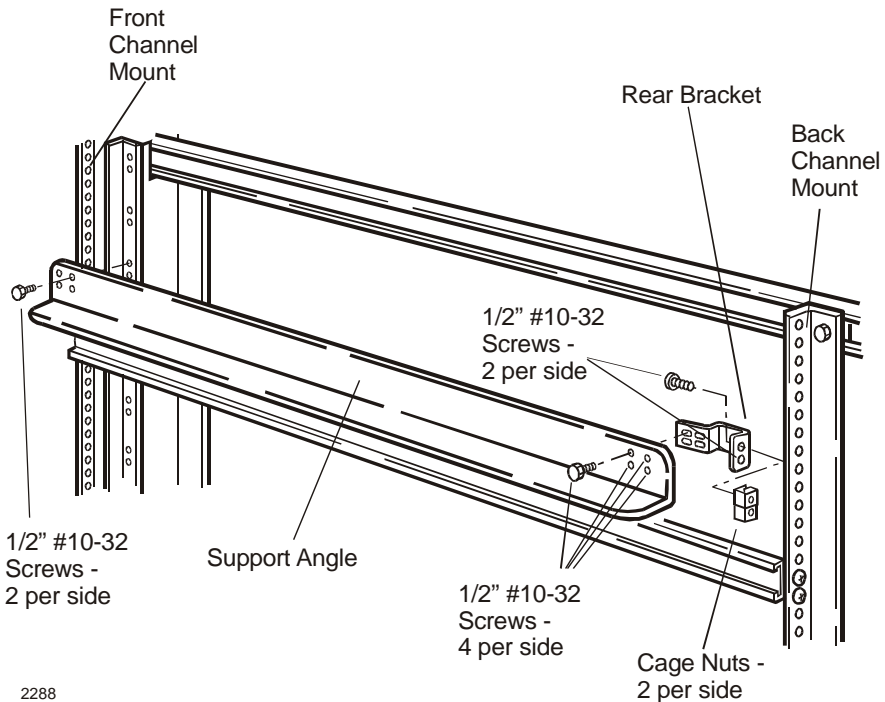

Figure 14. Installing Support Angles
1. Attach the rear bracket to the support angle with four 1/2" #10-32 screws. (Figure 14 shows a right support angle.)